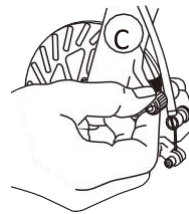

Fig 12 Disc brake pads adjustment
- Once the correct amount of travel has been reached, centre the brake Calliper on the disc by adjusting screw C(Fig.12).when the brake pads are centered on the disc the wheel should spin freely, though there may be a slight amount of noise until the pads “bed” in.
- If your cycle came from, or has recently been overhauled by a professional repair shop. you should be able to maintain good braking performance by adjuster screw C (refer to Fig.12)
- Once the correct amount of travel has been reached, center the brake caliper on the disc by adjusting screw C (fig.12). When the brake pads are centered on the disc the wheel should spin freely, though may be a slight amount of noise until the pad bed in.
- Remove the springs from the worn out pads and fit them onto the new pads. Replace the new pads, keeping them slightly inclined into the seat of the Caliper. Check that the spring hooks correctly onto the small piston.(When pulling downwards the pads should not come out).Refit the Caliper to the fork or frame and adjuster screw C(Fig.12)until the pads and the disc are centered and the wheel spins freely. Again there may be some noise from the brake until it “bed” in.